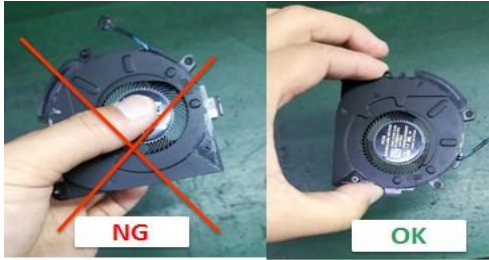

Figure 2
- ❖ "Pay attention to the way of handling the fan (Figure 2)"